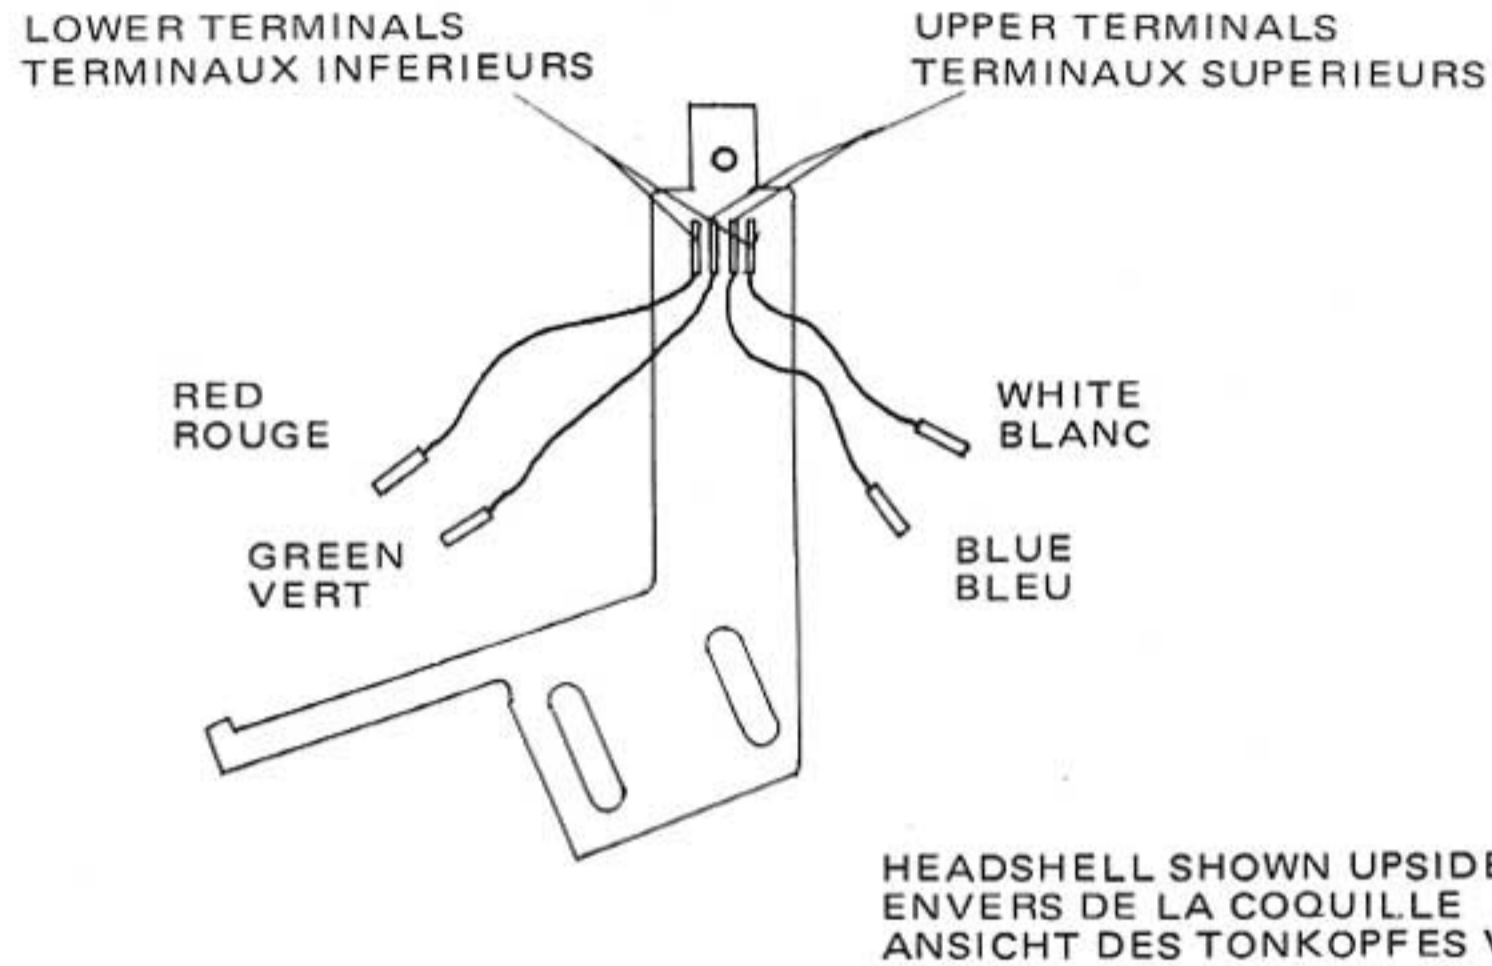
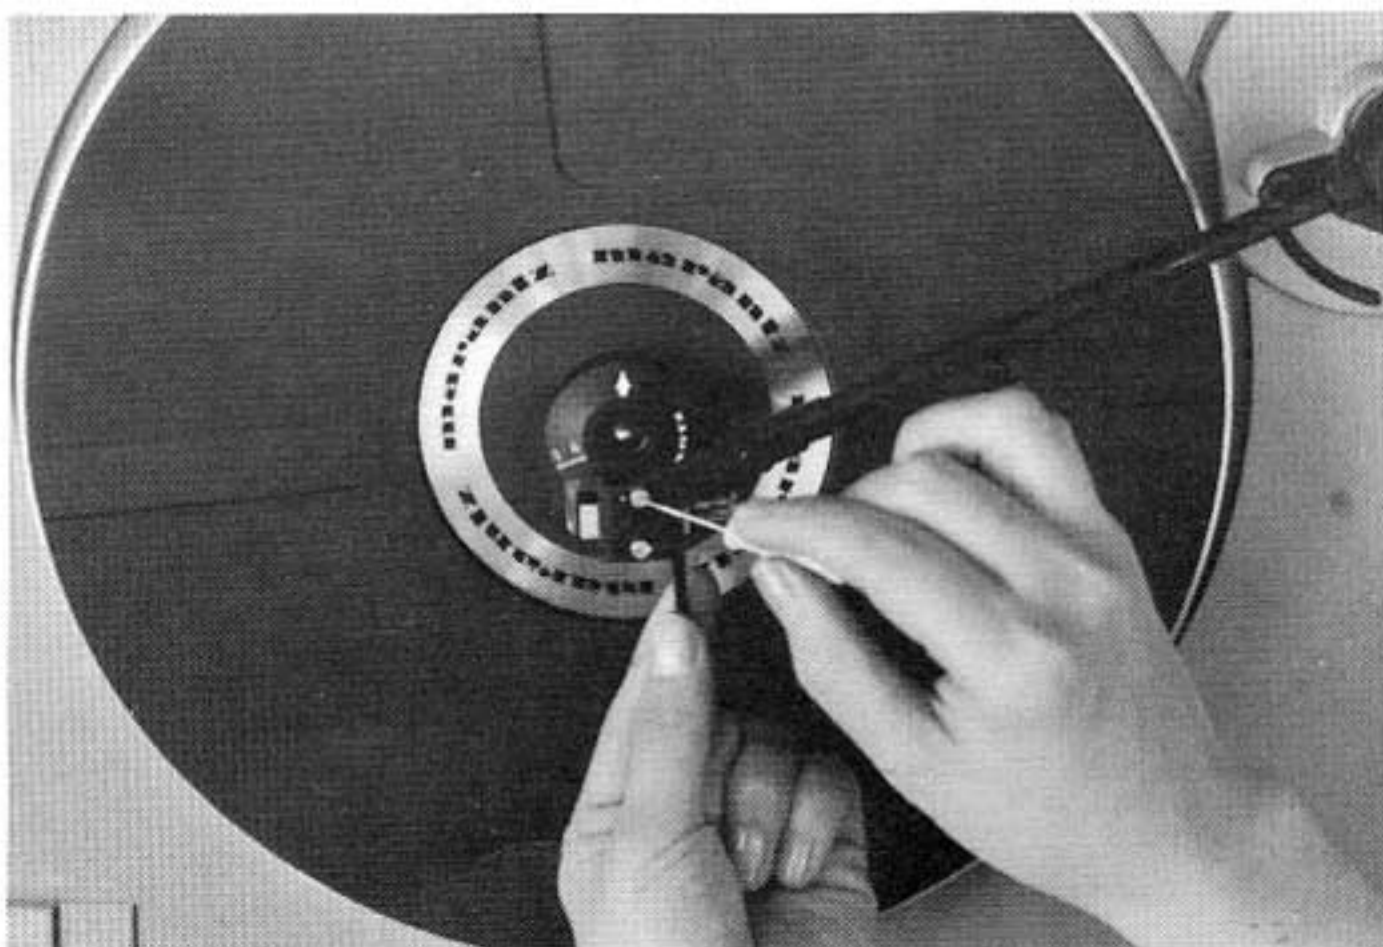

Fig. 1
Fig. 2
After the wires are connected insert the mounting screws through the plastic washers, through the top of the cartridge shell, and through the mounting tabs on the cartridge itself. Then attach the two nuts, just tight enough to hold the cartridge (it is likely they will have to be loosened again for the stylus overhang adjustment). Figure 1 shows the correct placement of the wires to the headshell in case they are accidentally removed. Figure 2 shows the correct method of attaching the headshell onto the tonearm.
La figure 1 montre l'emplacement correct des fils sur la coquille si par hasard ils étaient retirés accidentellement. La figure 2 montre la méthode correcte pour attacher la coquille au bras de lecture.
3. En vous référant à la figure 2, mettez l'aiguille sur la ligne correspondant à 17 mm sur l'adaptateur 45 T. Un contact léger sur le centreur 45 tours n'endommage pas l'aiguille, mais n'exercez pas une pression verticale sur l'aiguille qui serait alors endommagée.
3. Referring to Figure 2, place the stylus tip over the line corresponding to 17 mm on the 45 RPM adaptor. It is all right for the stylus to gently touch the adaptor for checking purposes, but do not exert any downward pressure on it or the stylus may be damaged.